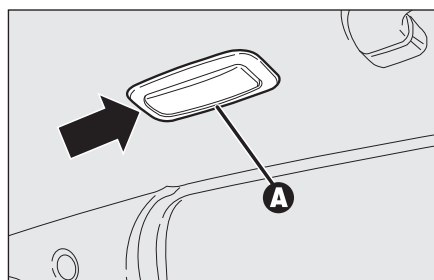

fig. 44
- ☐ remove the ceiling light **A**-fig. 44 working in the points shown by the arrows;